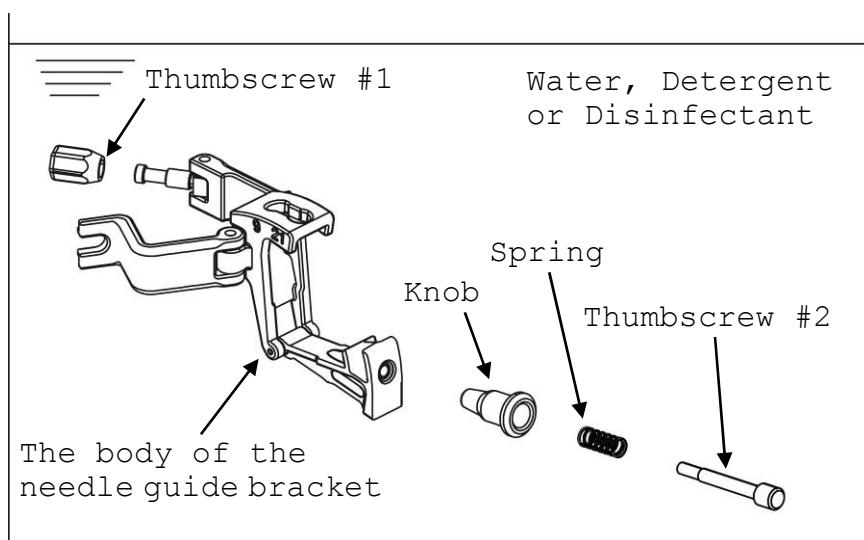

Fig. 25 Immersion of the Needle Guide Bracket
| WARNINGS | <ul style="list-style-type: none">➤ EZU-PA7C2 is delivered unsterile. Prior to the first use, reprocess it.➤ The cavities and the spiral spring of the EZU-PA7C2 require particular attentions during all processes. The needle guide bracket must be manually pre-cleaned using ultrasound prior manual reprocessing as well as automated reprocessing and must be dismantled into single parts (shown in Fig. 25). |
- 2) Separate the needle guide bracket to thumbscrew #1, thumbscrew #2, spring, knob, and the body of the needle guide bracket (see Fig. 25).
- 7) Rinse all parts of the needle guide bracket with running tap water for 1 minute. (alternatively: immerse them in a tray filled with deionized water/tap water (see Fig. 25) for 5 min.)
- 2) Immerse all parts of the needle guide bracket into the disinfectant (see Fig. 25). Rinse the cavity of the needle guide bracket with 50 ml disinfectant solution. Repeat this 4 times. Set a clock to insure the recommended contact time which is 5 minutes.
- 3) Rinse all parts of the needle guide bracket with deionized water for 1 minute. (alternatively: immerse them in a tray filled with deionized water (see Fig. 25) for 5 min.)